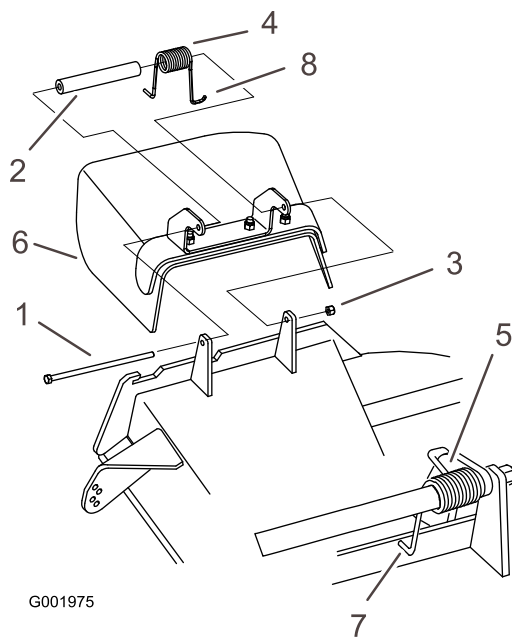

Figure 84
1. Remove the locknut, bolt, spring and spacer holding the deflector to the pivot brackets (Figure 84). Remove damaged or worn grass deflector.
Note: Make sure the **L** end of spring is installed behind deck edge before installing the bolt as shown in Figure 84.
3. Install bolt and nut. Place the **J** hook end of spring around grass deflector (Figure 84).